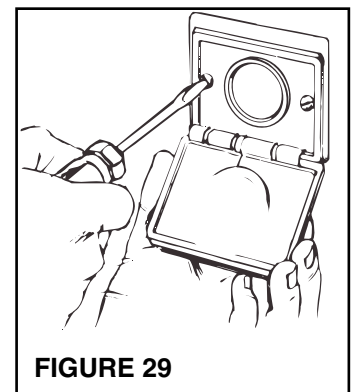

FIGURE 29
11. Insert wall inlet into bracket and secure with the two screws provided (Figure 29).